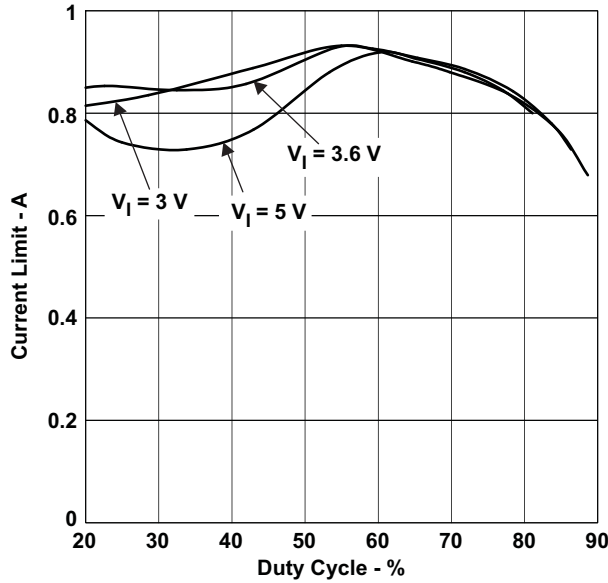
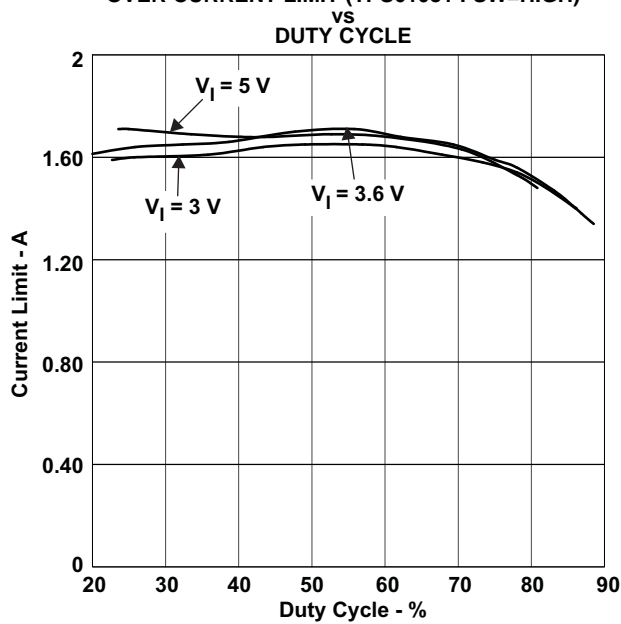

Figure 6.
Figure 9.
(1) V_{IN} = 3.6 V, V_{OUT} = 15 V, Duty cycle = 76%. See Figure 6 to Figure 9 for other operation conditions.
(2) OUT short circuit condition is detected if OUT stays lower than V_{IN} – V_{SC} for 1.7 ms after IC enables. See the START UP section for details.
To minimize the variation in the overcurrent limit threshold, the TPS61080/1 uses the VIN and OUT pin voltage to compensate for the variation caused by the slope compensation. However, the threshold still has some dependency on the VIN and OUT voltage. Use Figure 6 to Figure 9 to identify the typical over-current limit in your application, and use 25% tolerance to account for temperature dependency and process variations.